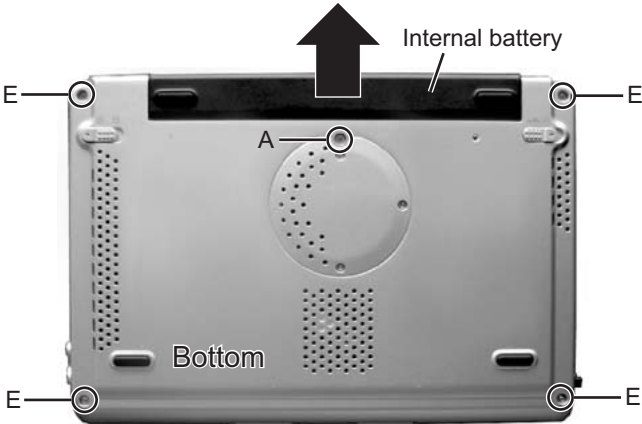
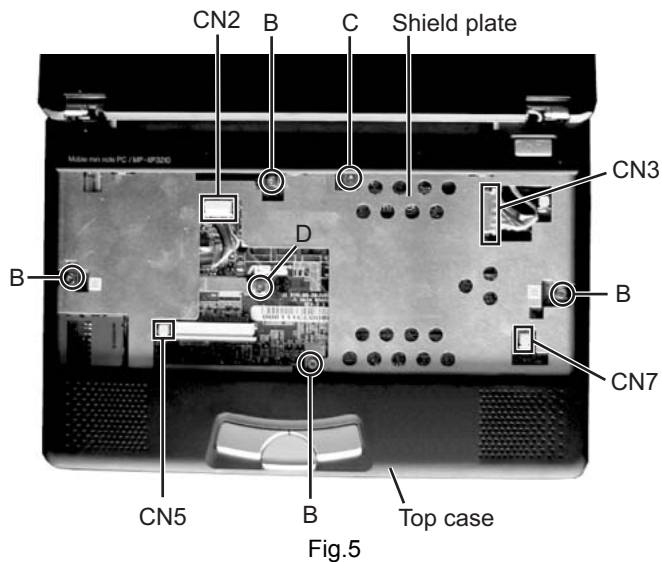
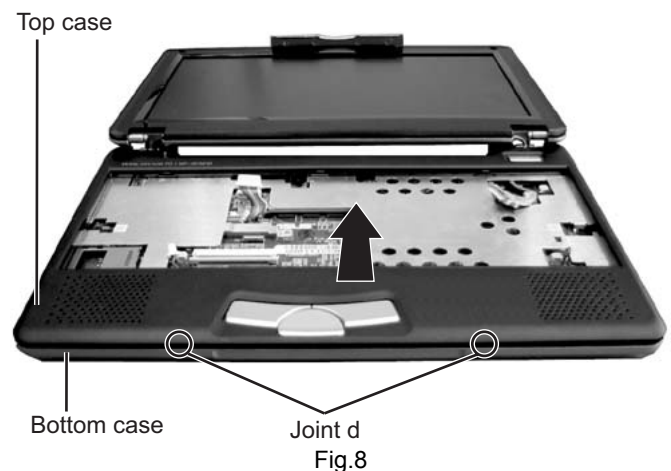

Fig.1
Fig.5
Fig.8
1.1.1 Removing the internal battery (See Figure 1)
1.1.3 Removing the top case and LCD panel assembly (See Figure 1 and Figure 5 ~ Figure 8)
(2) Remove the four screws **B** attaching the top case.
(3) Remove one screw **C** (short) and one screw **D** (long) attaching the shield plate.
(4) Reverse the main body, and remove the four screws **E** on the bottom of the main body. (See Figure 1)
(5) Disconnect the connector wire from the connector CN2 on the mother board. Similarly, remove the connector wires from the connectors CN3, CN5, and CN7.
(6) Remove one latch **c** on the rear side of the main body, and release the two joints **d** while moving the top case in the rear direction.